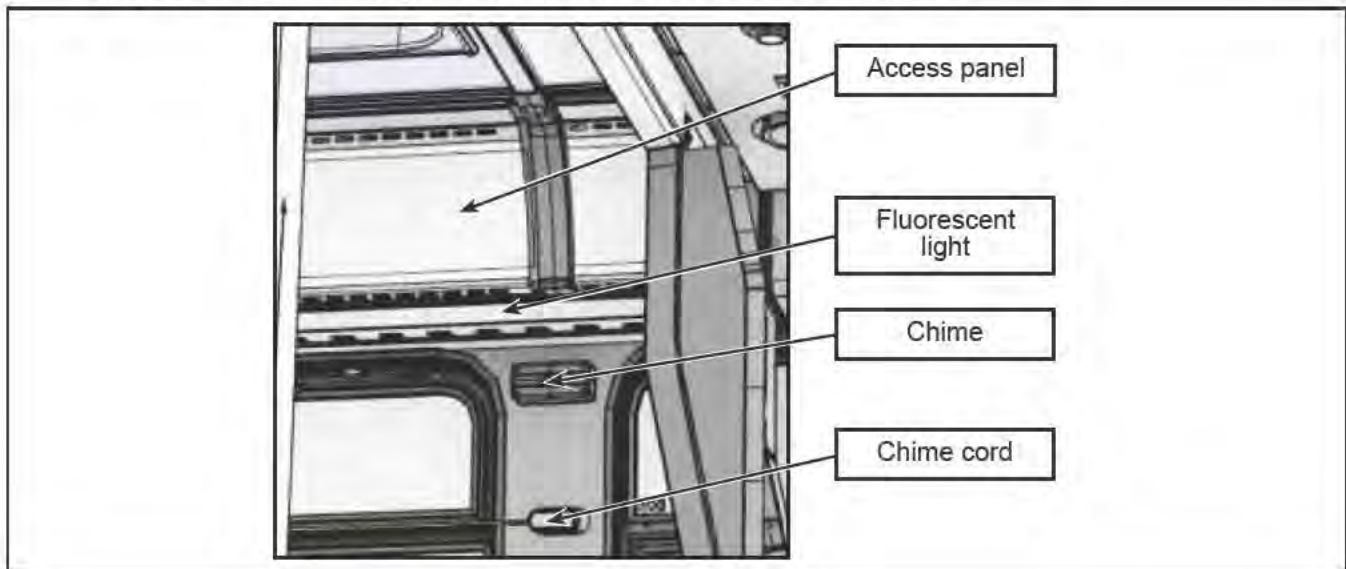

Figure 3 - Components to remove
- 1.9. Next to the ceiling, to access the hydraulic pipe N77549-01 (Figure 3), remove as needed:
- 1.10. Remove the chime (Figure 3).
- 1.11. Remove the chime cord (Figure 3).